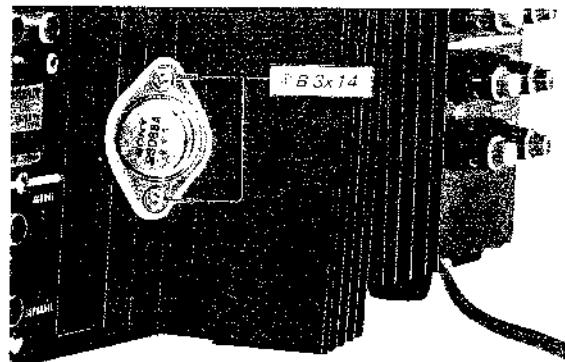

Fig. 2-9 Power transistor removal
4. Carefully draw back the pair of heat sinks, and then remove the two screws (#B 3x14) and nuts securing the power transistor to the heat sink. See Fig. 2-9.